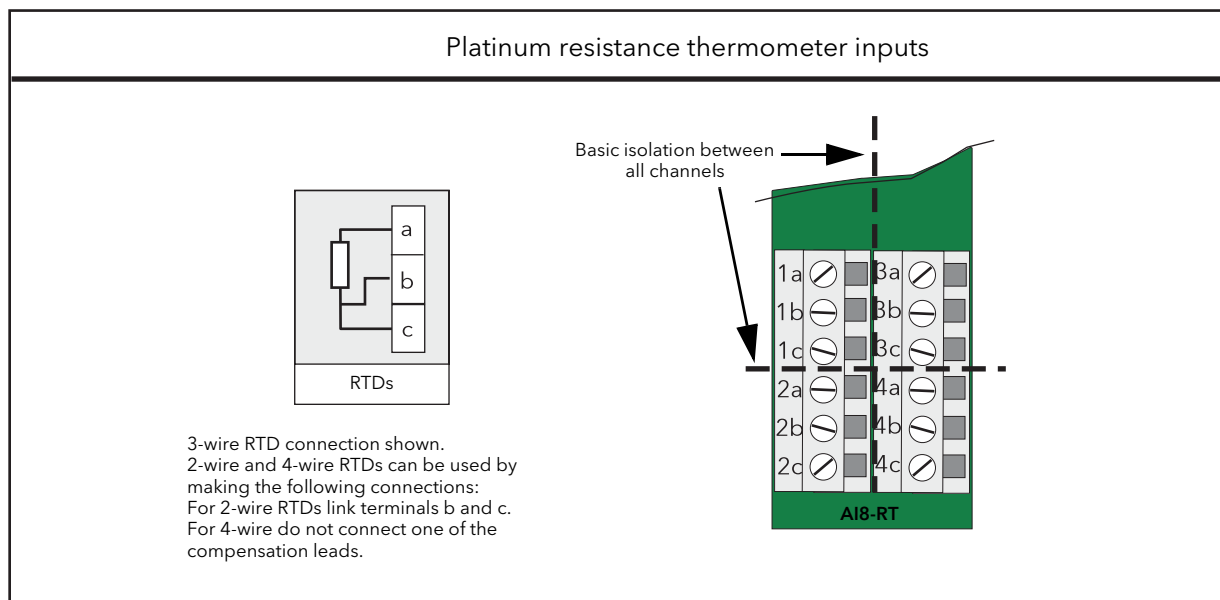

Figure 2.3.5a AI8-RT terminal unit
- **AI8-RT** – four channels of isolated platinum resistance thermometer (RTD) inputs, standard polling rate. See figure 2.3.5a for terminal pin-out details.